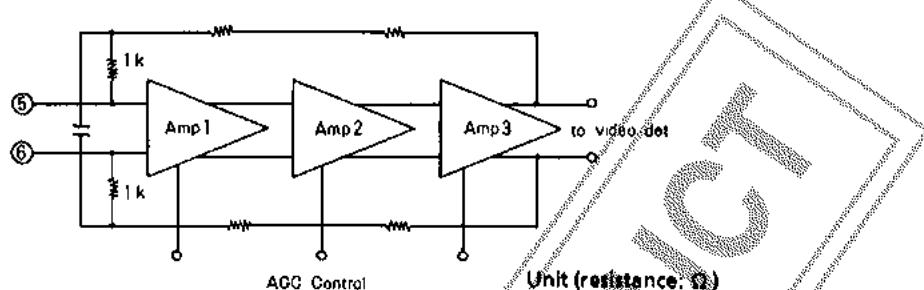

Fig. 1
As shown in Fig.1, the IF amp consists of three amplifiers directly connected with balanced input. Amps 1, 2 and 3, and the gain are controlled by the ACC.
a. Connect a digital voltmeter to pin 20 (APC filter pin) (Fig.1).